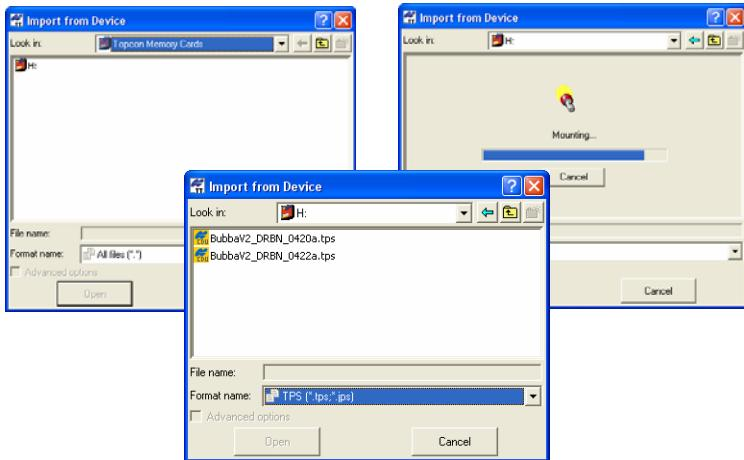

Figure 3-48. Import From Memory Card
3. Click **Memory Card** in the *Import from Device* dialog box. If the SD card was formatted in receiver's file system, the disk, which designate the Topcon Memory Card, will be displayed as red (Figure 3-48).